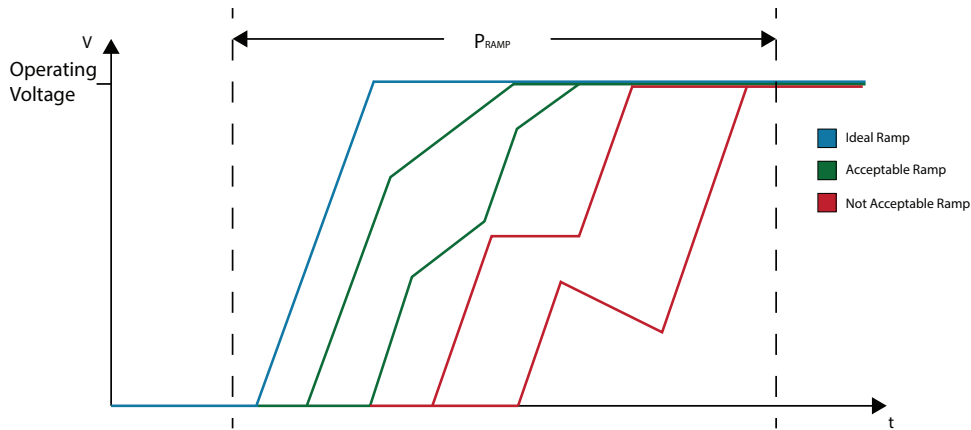

Figure 3-2: Acceptable Power Supply Ramp
3. The ramp of each power supply should not have any plateaus or dips. See Figure 3-2: Acceptable Power Supply Ramp.